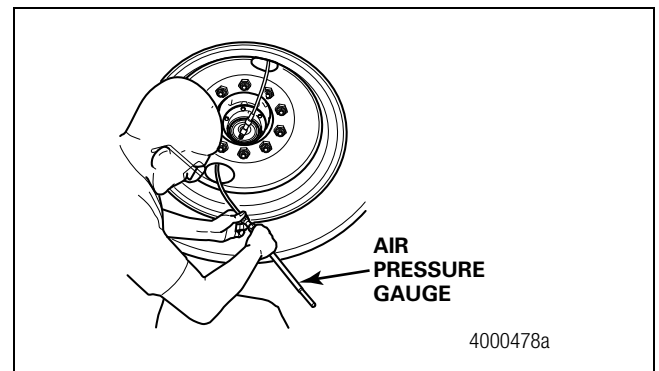

Figure 5.4
2. Press the tire pressure gauge to the hose and read the pressure. The end of the tire inflation system hose incorporates a standard tire valve fitting. Figure 5.4.